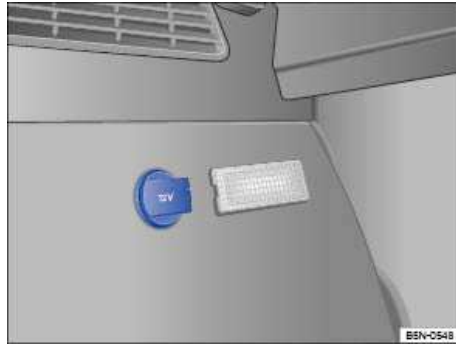

Fig. 133 In the luggage compartment: 12 Volt socket.
- In the luggage compartment ⇒ fig. 133.